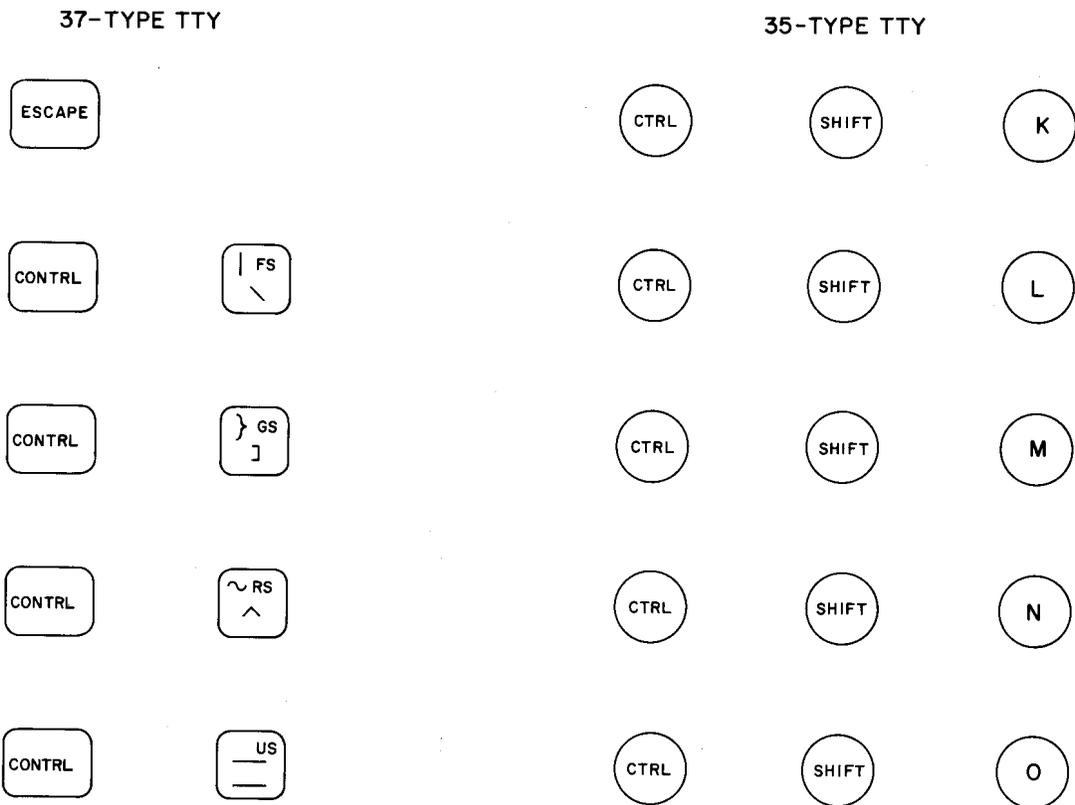

Fig. 6—Equivalent Control Characters
4.08 When using a 37-type position TTY and sending to a 35-type station TTY at 100 wpm (8), certain control characters must be transmitted differently. Figure 6 shows the keys to be depressed on the 37-type TTY to obtain the equivalent control characters when transmitting to a 35-type TTY. It is suggested that a system using colored tape be used to identify the correct key to depress on the 37-type TTY (in addition to the CNTRL key) to obtain the equivalent control function on the 35-type TTY.